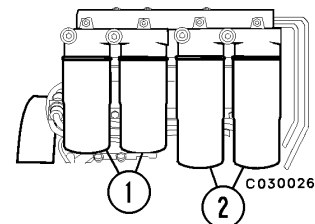

FIGURE 4-2. FILTERS - Upper Left Front of Engine
6. FUEL FILTER - Remove and replace two fuel filter elements. (2, Figure 4-2)
8. BY-PASS FILTERS - Remove and replace two engine by-pass filter elements. (1, Figure 4-2)